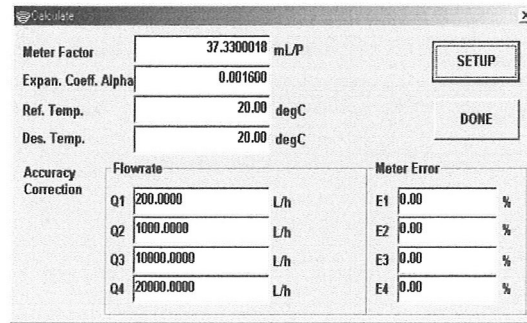

Fig.26
- ① Click on "Configure (M)" at top-level menu of the screen, select "Calculate (C)" and click on again.
- ② A message box like the one in Fig. 26 concerning the "Calculation" appears.